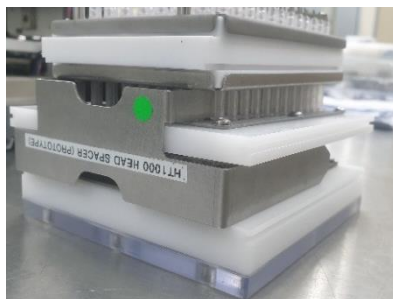

Figure 3-6a: Fluidic Head
7. Remove the fluidic head from its packaging, and position and insert the Fluidic Head Spacer (available in the accessories pack) according to Figure 3-6a.